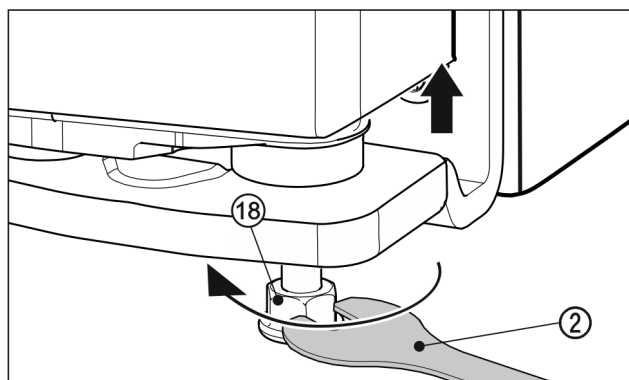

Fig. 26
- ▶ To lift the door, unscrew the adjusting foot Fig. 26 (18) clockwise using the supplied open-ended spanner Fig. 26 (2) until the foot comes into contact with the floor. Then continue turning until the door is adjusted to the right height. When delivered, the bearing pin is completely screwed in.